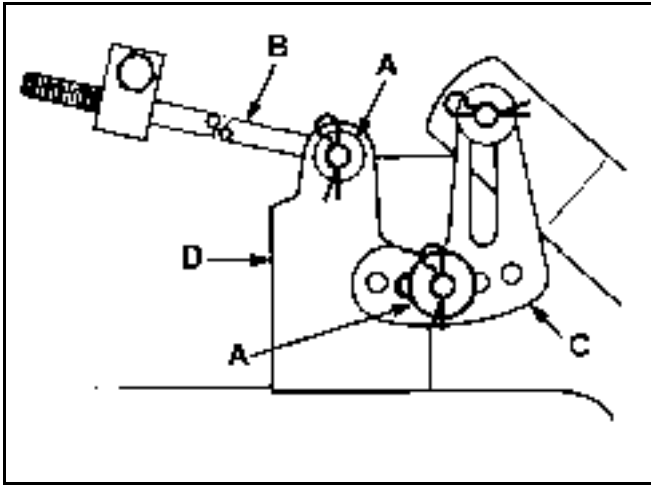

Figure 199
- Remove the hairpin cotter and washer at the top of the mower leveling bracket (Figure 199). Slide the bracket off of the mounting pin. Repeat this step on the opposite side of the mower.
- Remove the hairpin cotter and washer from the end of the long rod (Figure 199). Slide the rod out of the mower mount. Repeat this step on the opposite side of the mower.